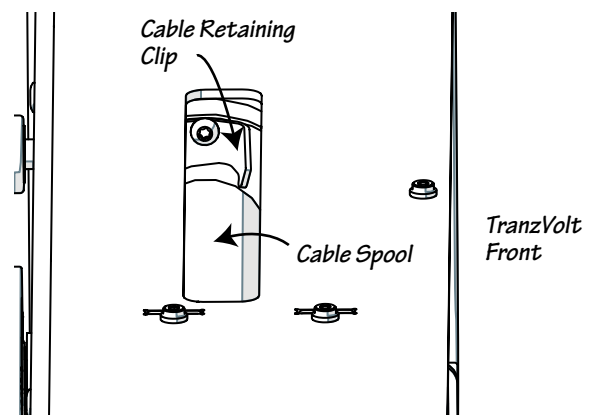

Fig. 14-3
- Working from the front - look down, through the cable slot, locate the cable spool. See Fig. 14-3
- Release the UP button when the cable retaining clip (located on the right side of the spool) is visible and positioned towards to top of the power box. Fig. 14-3